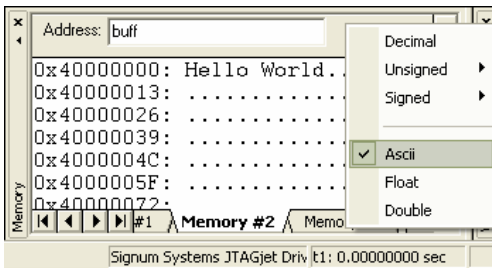

FIGURE 35 The buffer `buff[]` displayed in ASCII format with the string “Hello World” in it.
6. From the View menu, open the Memory window. The window appears at the bottom of the main IDE window. Set the address of the Memory window to „buff” (global variable). This will position the window to show the memory area occupied by the buff[] variable, i.e., at address 0x40000000. The buffer should be filled with zeros (Figure 35). The same variable can also be inspected in the Watch window.